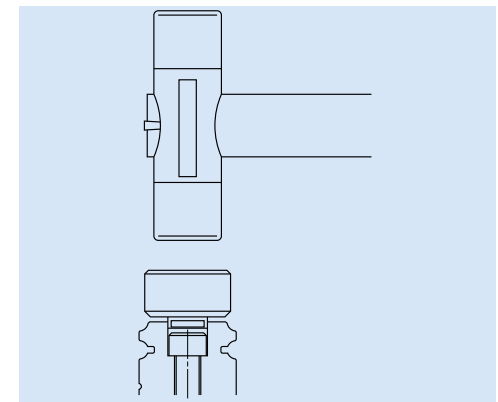

Fig. 7.5
- To insert the cap into the rail bolt hole, use a flat dolly block (**Fig. 7.5**). Pound the cap gradually until its height becomes flush with the rail top surface.